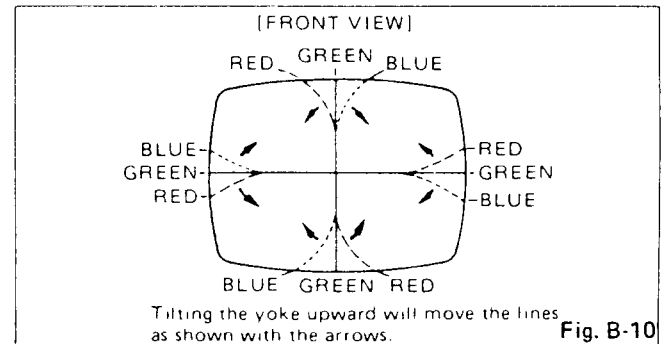

Fig. B-10
8. Tilting the angle of the yoke up, down and sideways, and adjust the yoke so as to obtain the circumference convergence. (Fig. B-10, 11)